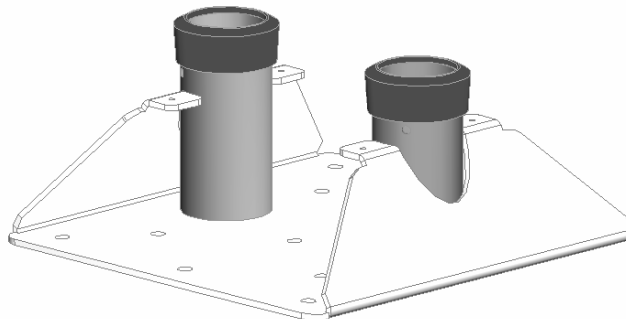

Figure 2. Remove Covers
1. Remove four screws securing covers and remove covers (see Figure 2).